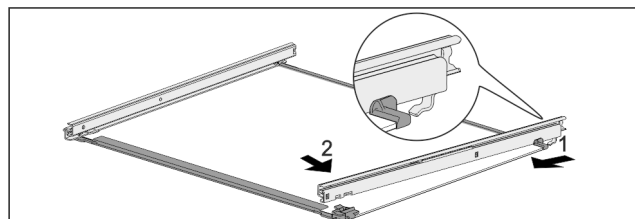

Fig. 125 Glass shelf with rails
- Hook in rail at the back. Fig. 125 (1)
- Hook in rail at the front. Fig. 125 (2)